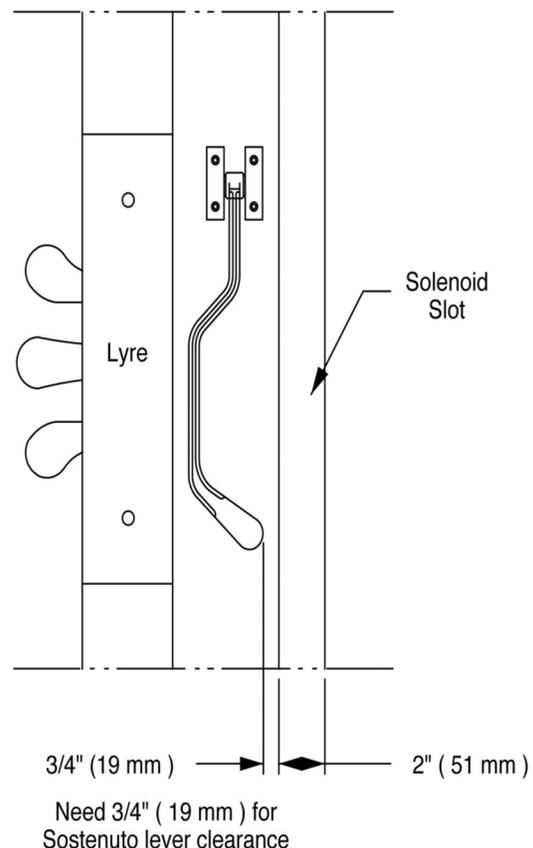

Figure 13
- B.** Measure the distance from the back edge of the *una corda* lever to the edge of the solenoid slot (See Figure 13). If this distance is $\frac{3}{4}$ " (19 mm) or more, there is adequate room to install the trapwork without additional modification. In that case, skip the next step and proceed to Step 17, "Prepare the pedal solenoid for mounting." However, if the distance from the back edge of the *una corda* lever to the edge of the solenoid slot is less than $\frac{3}{4}$ " (19 mm), there is insufficient room for the trapwork to be installed. This will require making certain changes to the position of the pedal lyre, and possibly the *una corda* (soft) pedal as well. Please continue on to Step 16, "Modifications for proper trapwork fit".
- A. Determine the distance needed for the trapwork.** There needs to be $\frac{3}{4}$ " (19 mm) of clearance between the shift lever and the rail cover. (See Figure 13) If there is not adequate room for the trapwork lever, then the lyre support must be moved forward.